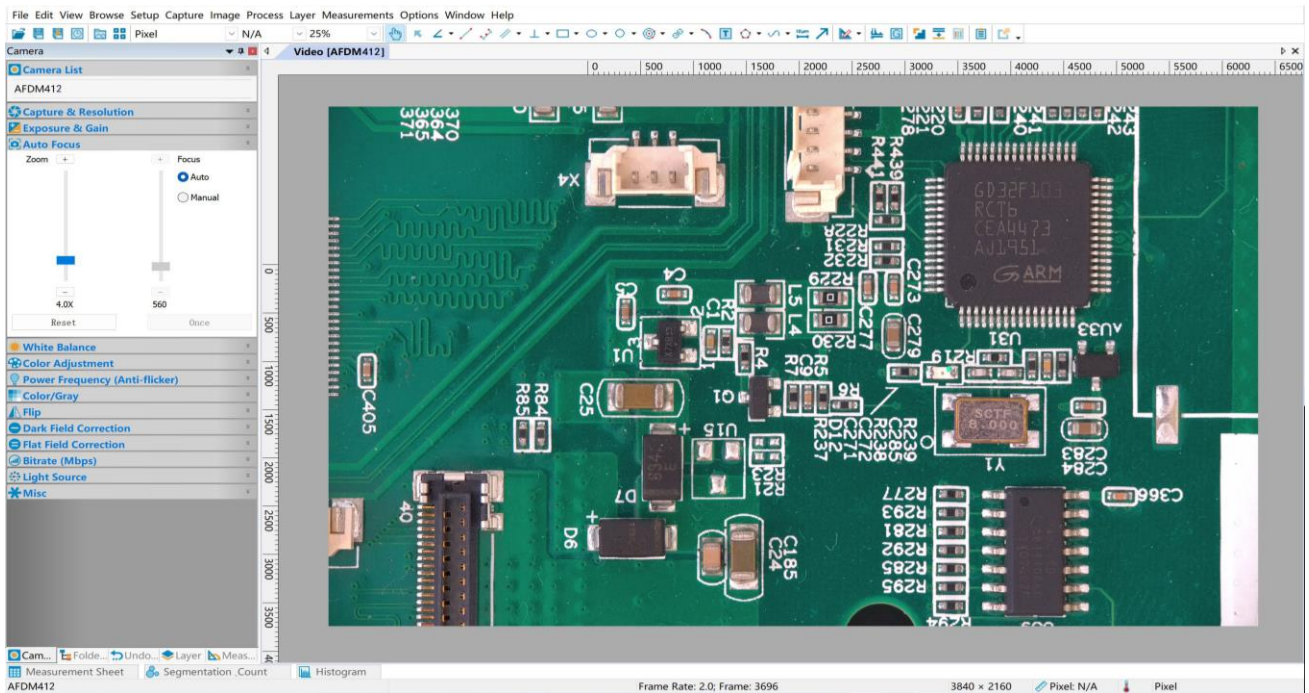

Figure 5-2 AccuView and microFOCUS 4K Camera in USB Mode
- Install AccuView/AccuView Lite on your PC or install AccuView App on the mobile device; Run the software AccuView/AccuView Lite, clicking the camera name in the camera list n to start the live video as shown in Figure 5-2.
displayed as a camera list or thumbnail in the software or app as shown in Figure 5-2.